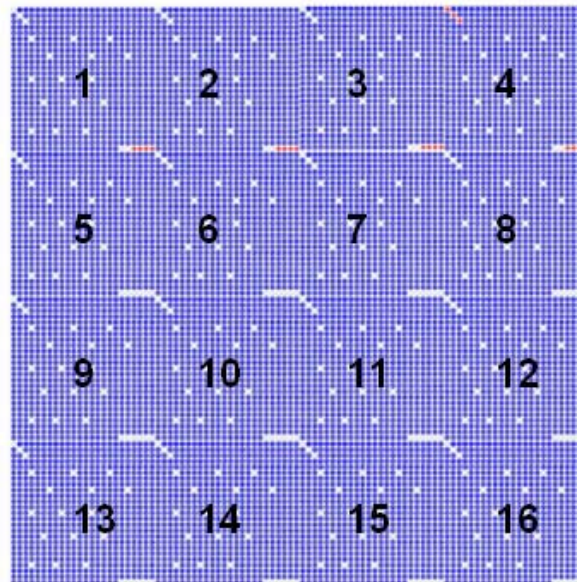

Figure 3: Exemplary view for a subarray consisting of 16 individual blocks.
Each peptide subarray (SA) is printed in individual blocks (see Figure 3, details see Figure 4). Using the provided .gal-file, the evaluation can be performed using software modules like Genepix, ArrayPro or similar programmes which will align the .gal-file induced grid onto the resulting image.